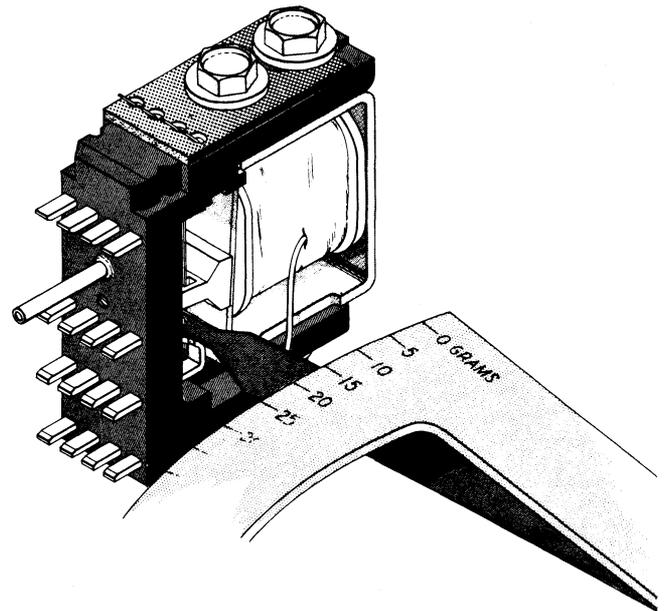

Figure 2-10. Contact Wire Tension
5. Adjust tension on the contact wires (Figure 2-10) by shifting the wire holder so that a 50-gram pressure applied at the center of the free end of the armature just moves the wires away from the contacts on the normally closed side. The 6- and 12-position relays require a 70- and a 130-gram pressure.